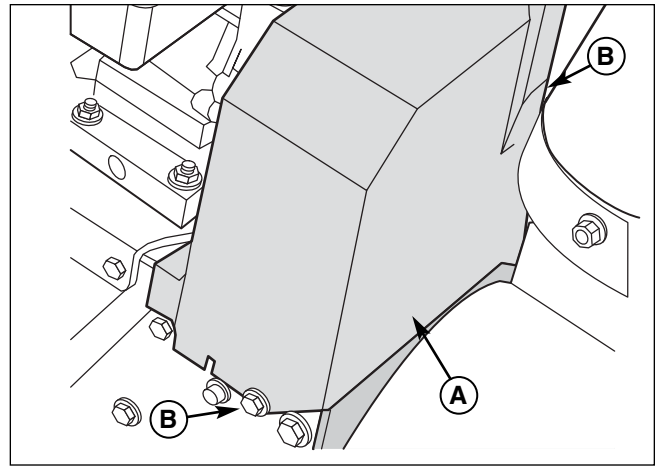
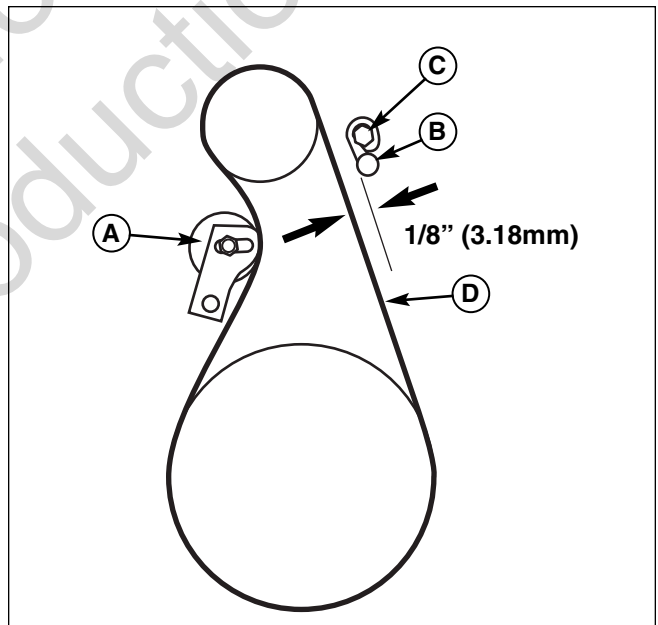

Figure 26. Belt Cover
Figure 29. Belt Guide
2. Remove screw (B, Figure 26) from belt cover (A). Remove belt cover (A).
6. Reinstall belt cover (A, Figure 26) securing with screws (B).
2. Remove screws (B, Figure 26) from belt cover (A). Remove belt cover (A).
3. Measure the distance between the belt guide (B, Figure 29) and the belt (D). The distance should be 1/8 inch (3.18 mm).
4. If adjustment is necessary, loosen belt guide capscrew (C). Move belt guide (B) to correct position. Tighten capscrew (C).
5. Reinstall belt cover (A, Figure 26) securing with screws (B).
4. Loosen screw (B, Figure 26) from belt cover (A). Remove belt cover (A).